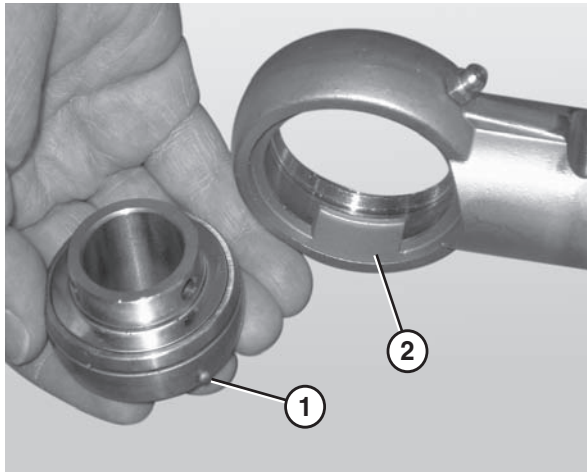

Figure 73
4. Remove the worn or damaged bearing (**Figure 73**).
*When inserting the new bearing, make sure the anti-rotation notch (**Figure 73, item 1**) on the bearing lines up with the groove inside the housing (**Figure 73, item 2**).*